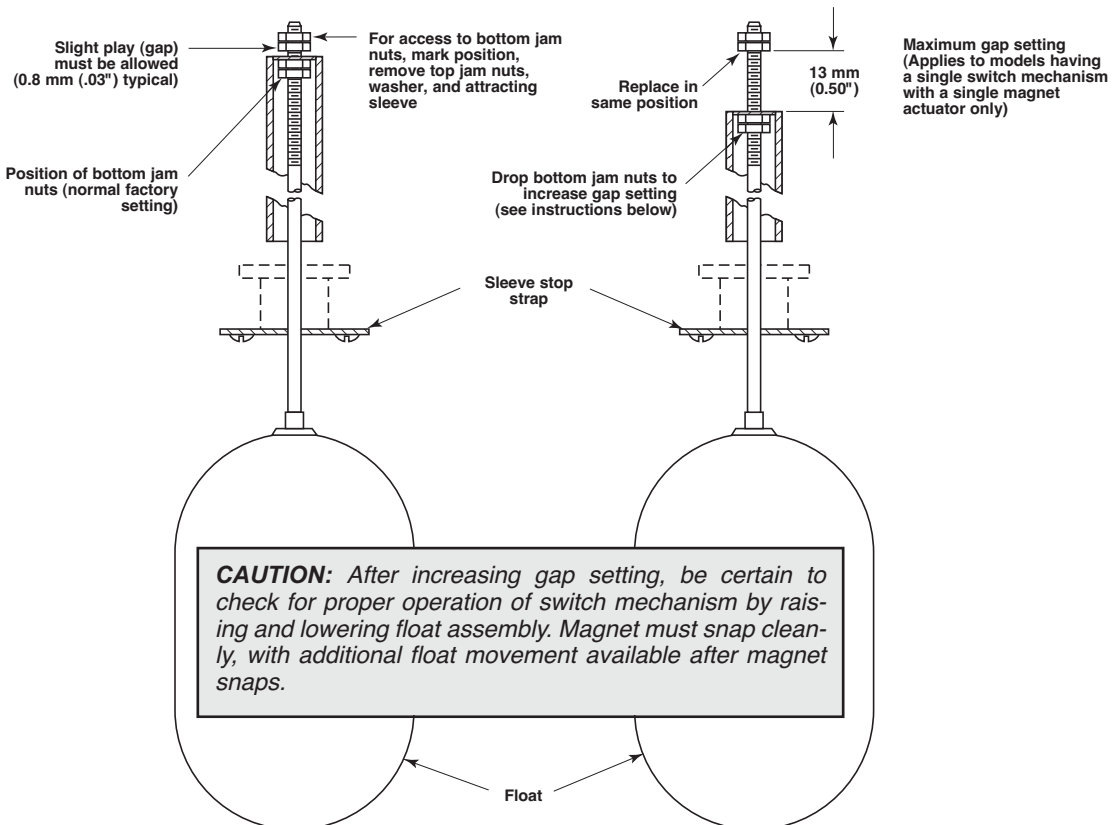

Figure 4
The differential, or the amount of level travel between switch-on and switch-off, may be adjusted by repositioning the lower jam nuts on the float stem. The standard factory setting is for a minimum amount of play (gap) between the top jam nuts and the attraction sleeve as shown in **Figure 4**.
- 5b. The amount of level travel between switch-on and switch-off actuations (differential) may be field adjusted by repositioning the lower jam nuts on the float stem. The standard factory setting is for a minimum amount of play (gap) between the top jam nuts and the attraction sleeve, as shown in **Figure 4**. This setting may be increased to a maximum of 13 mm (0.50"), as shown in **Figure 5**.